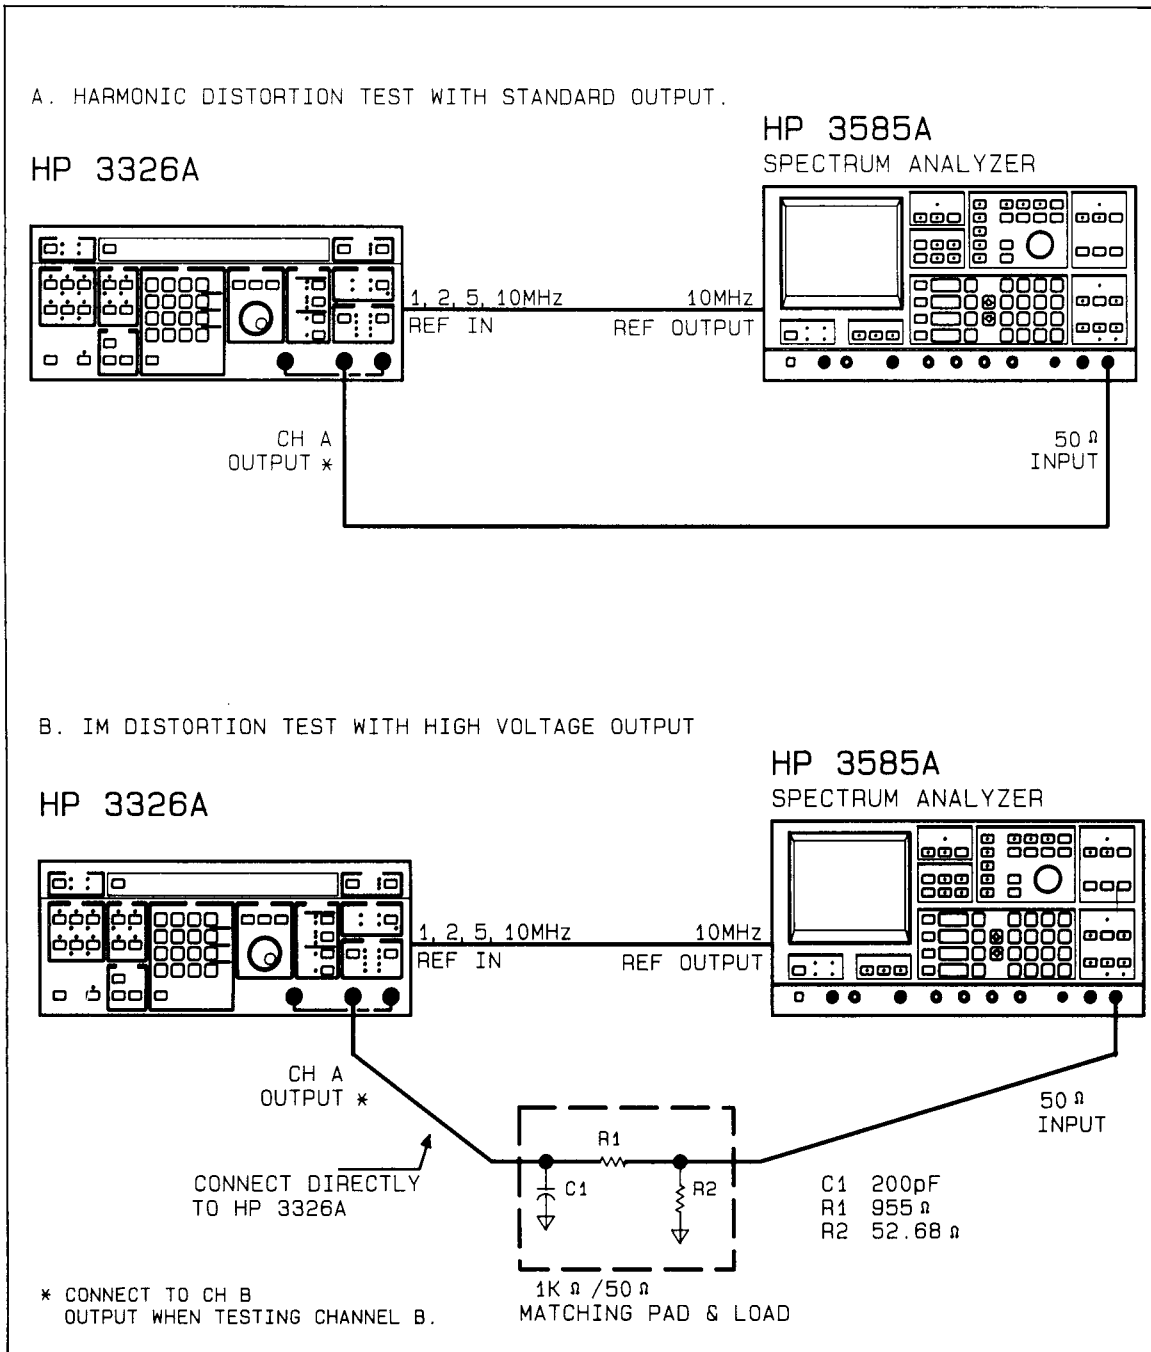

Figure 2-2. Harmonic Distortion Test
2. Connect the test equipment as follows (illustrated in Figure 2-2(A)):
2. Connect the test equipment as follows (illustrated in Figure 2-2(B)):
9. Preset the HP 3326A and connect the HP 3326A channel B output to the 1 kΩ/50 Ω matching pad and load (Refer to Figure 2-2(B)).